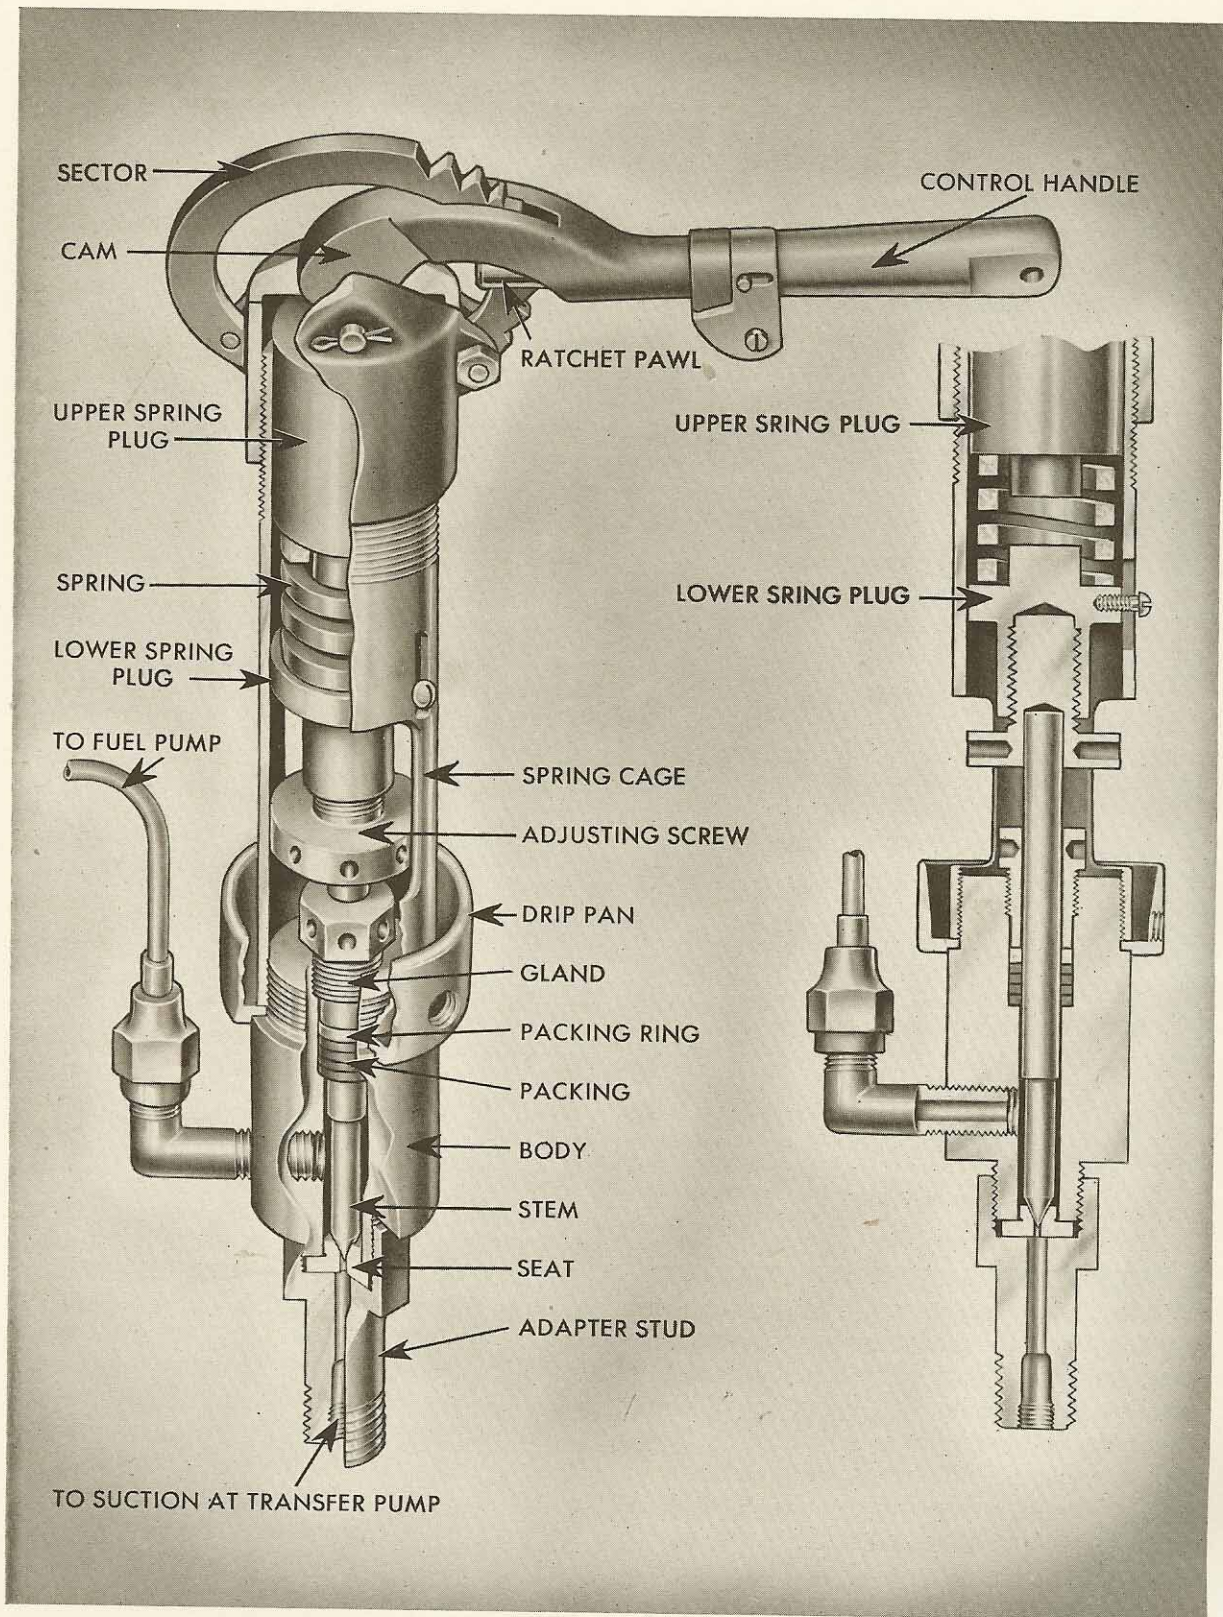

FIGURE 16-3
4. ASSEMBLY: Grip the body of the valve in a vise and insert several rings of packing. On top of the packing place the brass packing ring. Screw in the packing gland until it just touches the packing ring. At least half of the threads on the packing gland should be engaged. These parts can be seen in Figure 16-3.
Assemble the entire valve as shown in Figure 16-3 but do not attach the adapter stud and seat. The drip pan is held in place by the spring cage which should be left about one-quarter turn loose. This allows the drip pan to be turned so that the opening can be lined up with the fitting on the engine when the valve is installed.